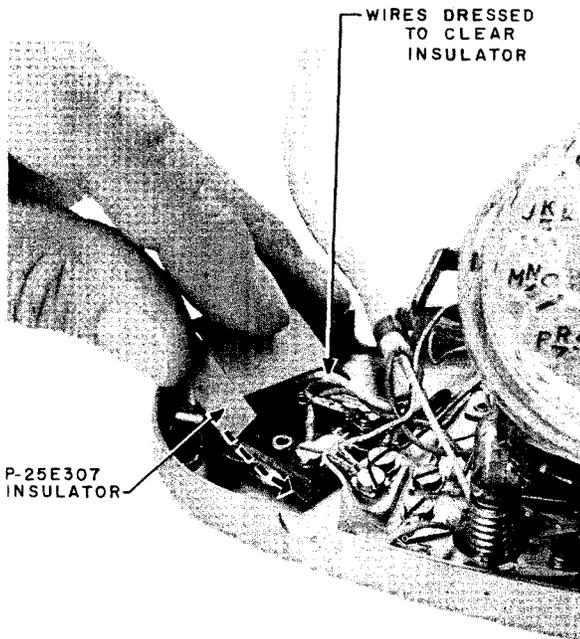
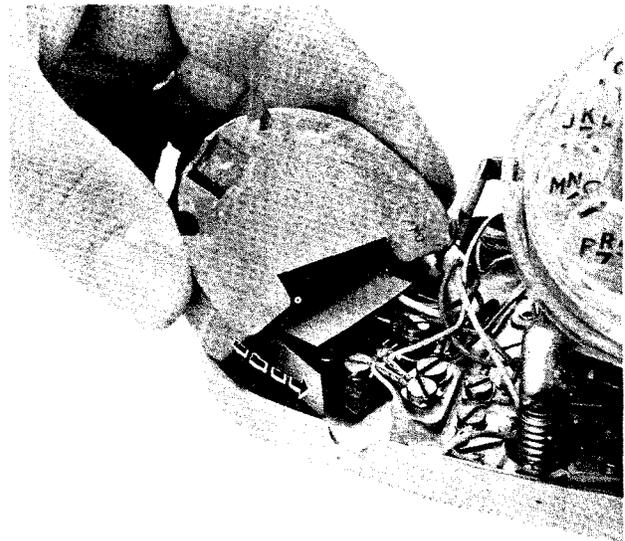

Fig. 8 — Placing Insulator over Terminal
Fig. 9 — Funneling Weight into Position
2.10 Install a weight in 701B and 701D telephone sets to reduce sliding on smooth surfaces during dialing. A D-179924 kit, containing a weight, spring, and insulator is available. Dress all leads so that the spade tips fall wholly within the boundaries of the terminal block, and then place insulator. (See Fig. 8.) Funnel weight into position. (See Fig. 9.)